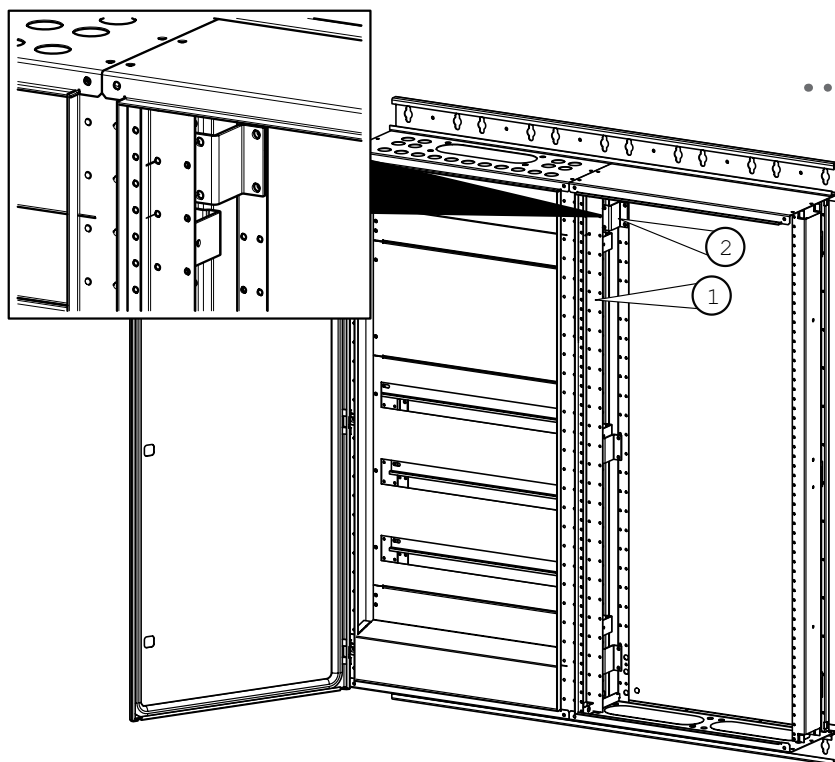

Fig 8.6.1. Intermediate cover mountings and their brackets are assembled together and the assembly is then fastened with screws to the L profiles.
Intermediate cover mountings (1) are first fastened with screws to intermediate cover mounting brackets (2). Then this mounting set is fastened with assembly screws to the back profile as shown in Fig. 8.6.1